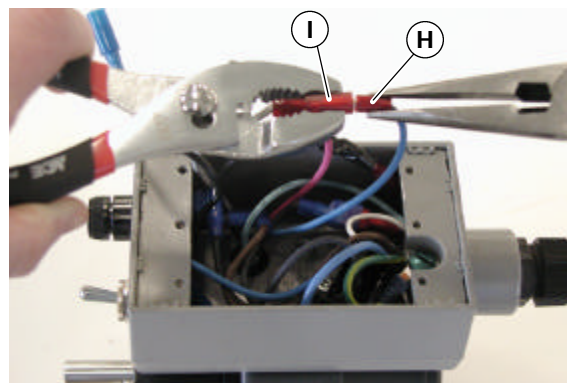

Figure 16
**11b.** Unplug gray wire (I of Figure 16) from dark blue wire (H).